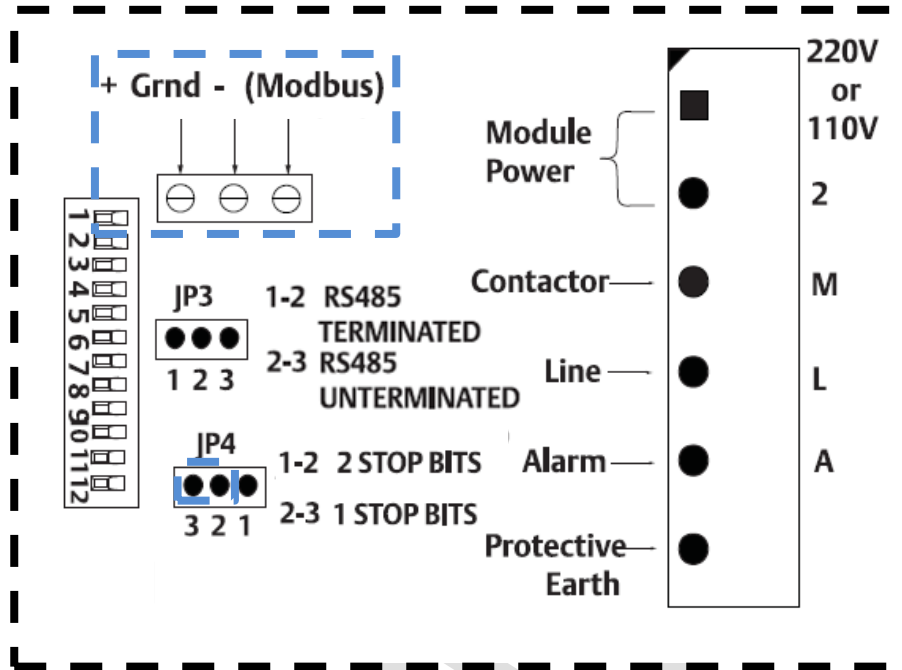

Figure 4: CoreSense Circuit Board
2. **JP4: Postion 2-3.** Stop Bits 1, the left most position. Refer to Figure 4.